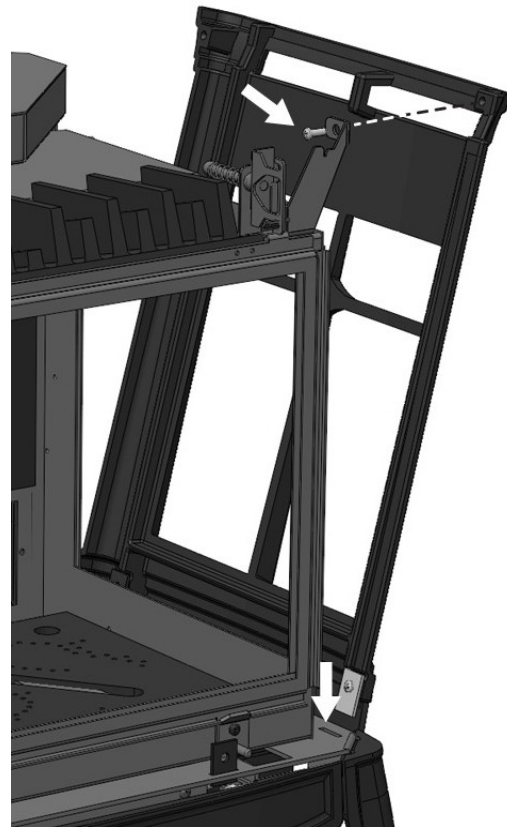

Figure 33 – Side Panel Mounting Detail
2. To dismount the side panels, first remove the top and front façade. Remove the top front machine screw while holding the panel, and then lift the side panel off the stove (See figure 33).